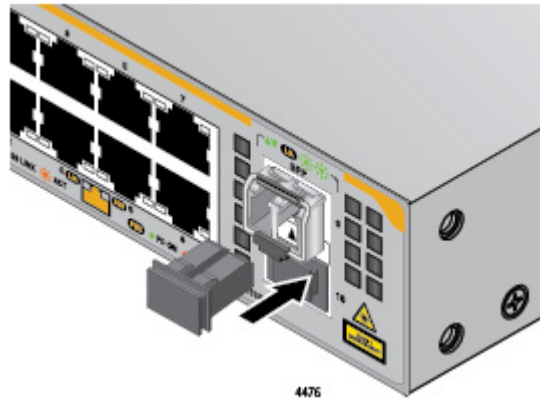

Figure 25. Insert SFP transceiver Dust Cover
2. Insert the SFP transceiver dust cover into the SFP transceiver. Refer to Figure 25.